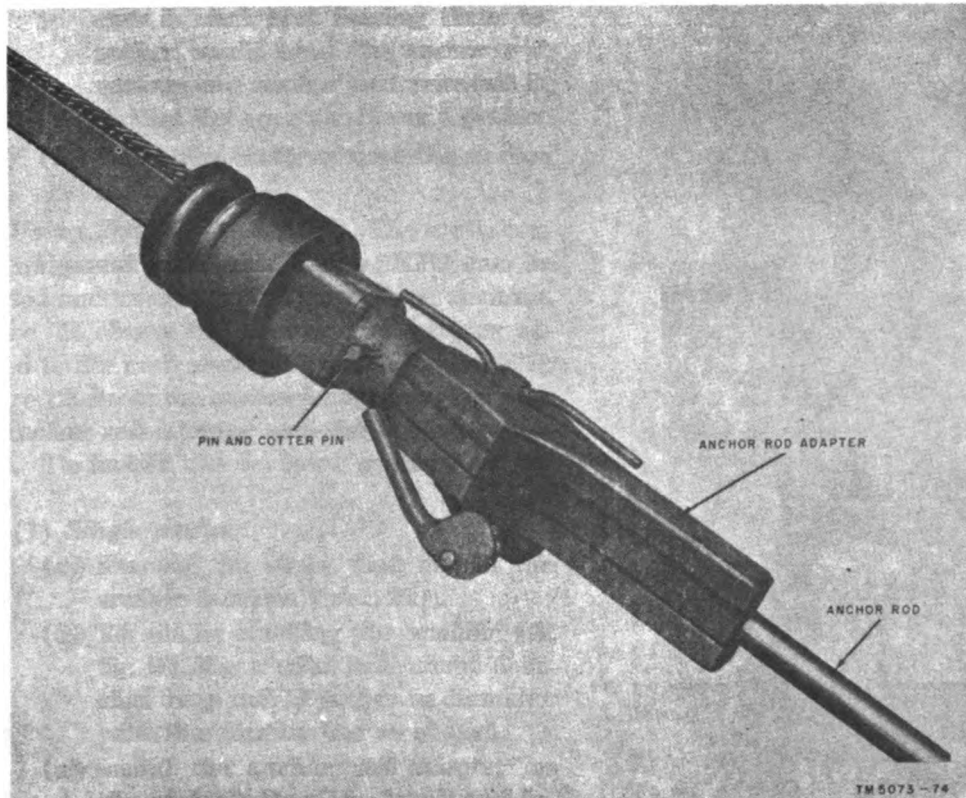
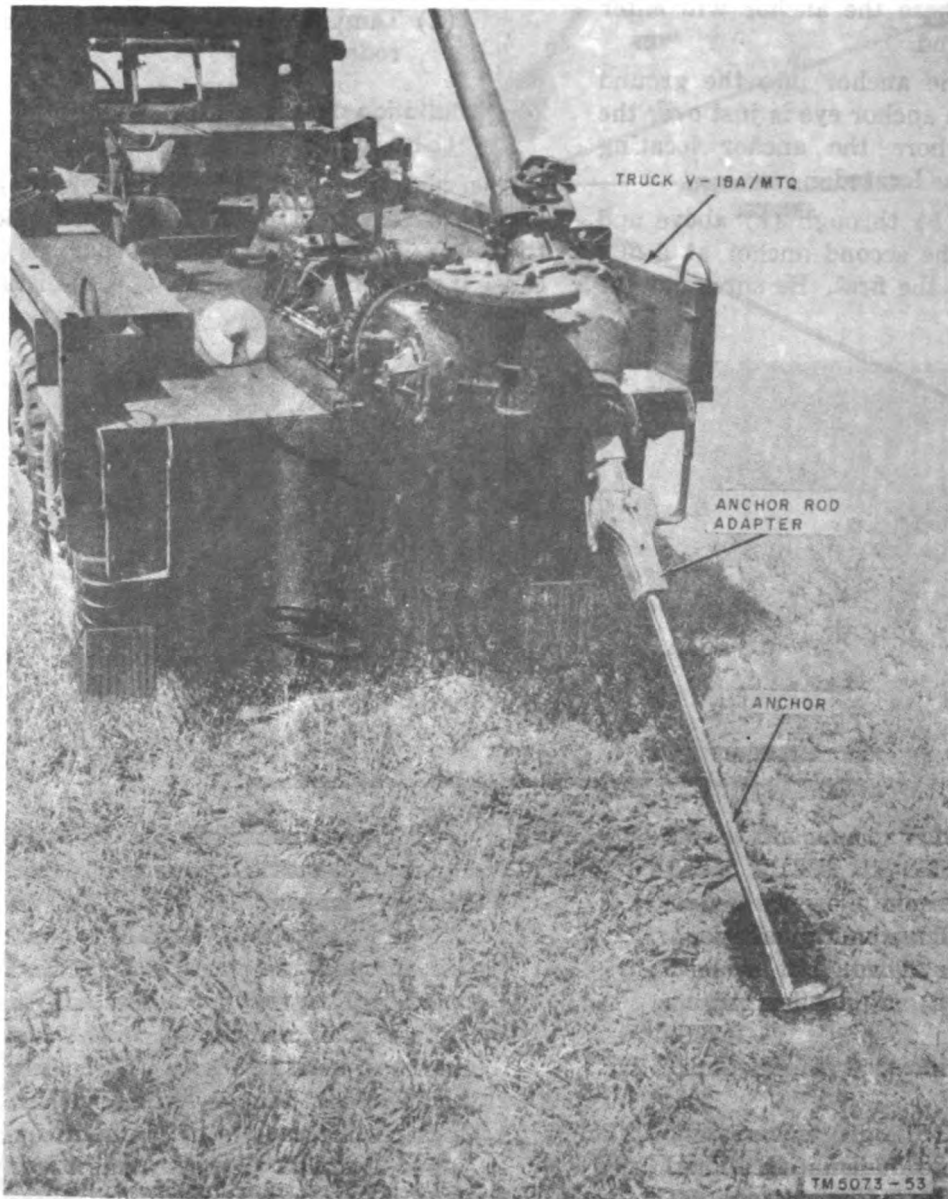

Figure 11. Anchor rod adapter attached to rack shaft, Truck V-18A/MTQ.
Figure 12. Truck V-18A/MTQ, using boring machine to set anchor.
b. Using Truck V-18A/MTQ. The earth boring equipment on Truck V-18A/MTQ can be adapted and used to install screw-type anchors. Figure 11 shows the anchor rod adapter attached to the rack shaft of Truck V-18A/MTQ. Figure 12 shows the anchor being installed with the anchor rod adapter and the boring equipment. To install the anchors, proceed as follows:
- (a) Install the anchor rod adapter (fig. 11) on the rack shaft of Truck V-